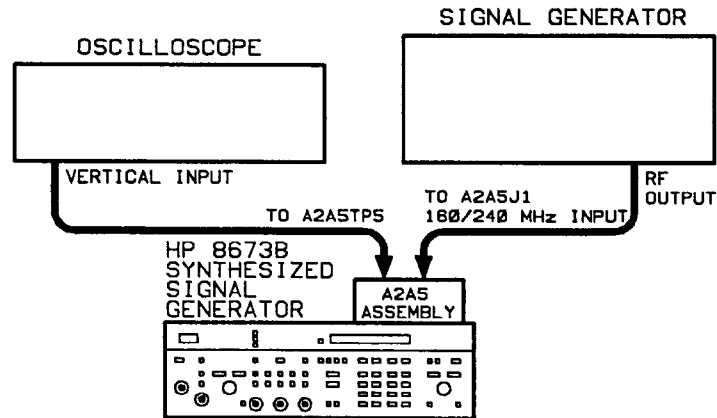

Figure 5-8. 20/30 MHz (LFS) Loop Divider Bias Adjustment Test Setup
7. Connect the equipment as shown in figure 5-8.